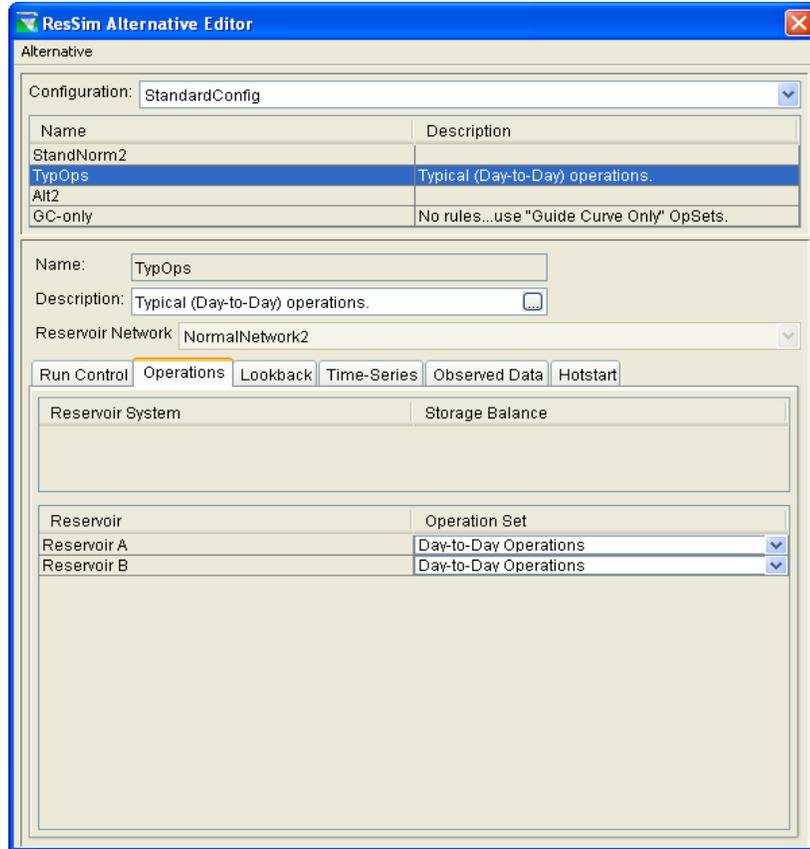

Figure 29. Alternative Editor, Operations Tab
- In the Alternative editor, select an Alternative. On the **Operations** tab, select an **Operation Set** for each reservoir [Section 13.5]. This can be accomplished in the Operation Set column by selecting (for each Reservoir) the operation set from the list, as shown in Figure 29.